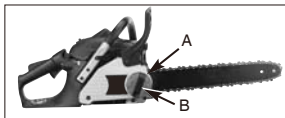

Fig. 4
1. Hold nose of guide bar up and turn adjustment chain ring (A) CLOCKWISE to increase chain tension. Turning chain ring (A) COUNTERCLOCKWISE will decrease amount of tension on chain. Ensure the chain fits snugly all the way around the guide bar. (Fig. 4)
2. After making adjustment, and while still holding nose of bar in the uppermost position, tighten the bar retaining button (B) securely. Chain has proper tension when it has a snug fit all around and can be pulled around by gloved hand. (Fig. 4)